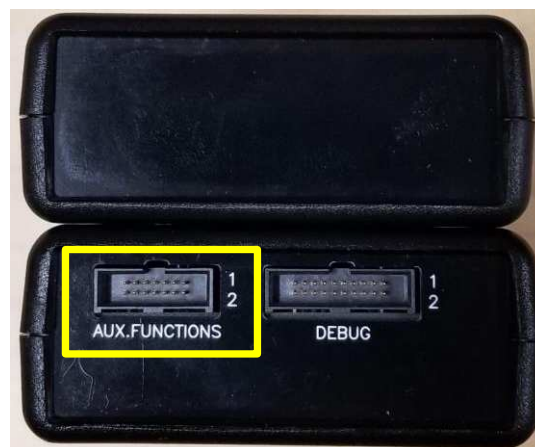

Figure 24. XDS110 Auxiliary Interface
2. Connect the opposite end of the 14-pin auxiliary cable to the AUX port of the XDS110 Debug Probe, as shown in Figure 24. Then connect the XDS110 Debug Probe to the PC using the USB cable.